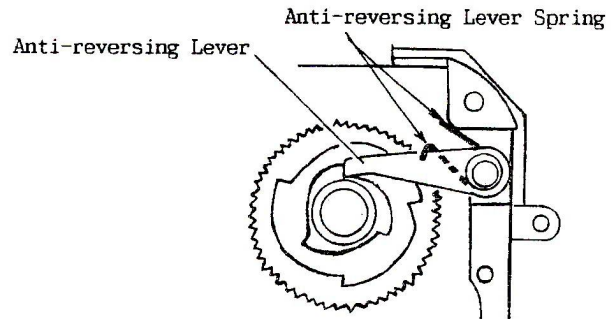

Fig.27
- 24) Set the Anti-reversing Lever Spring as shown in the Fig.27.